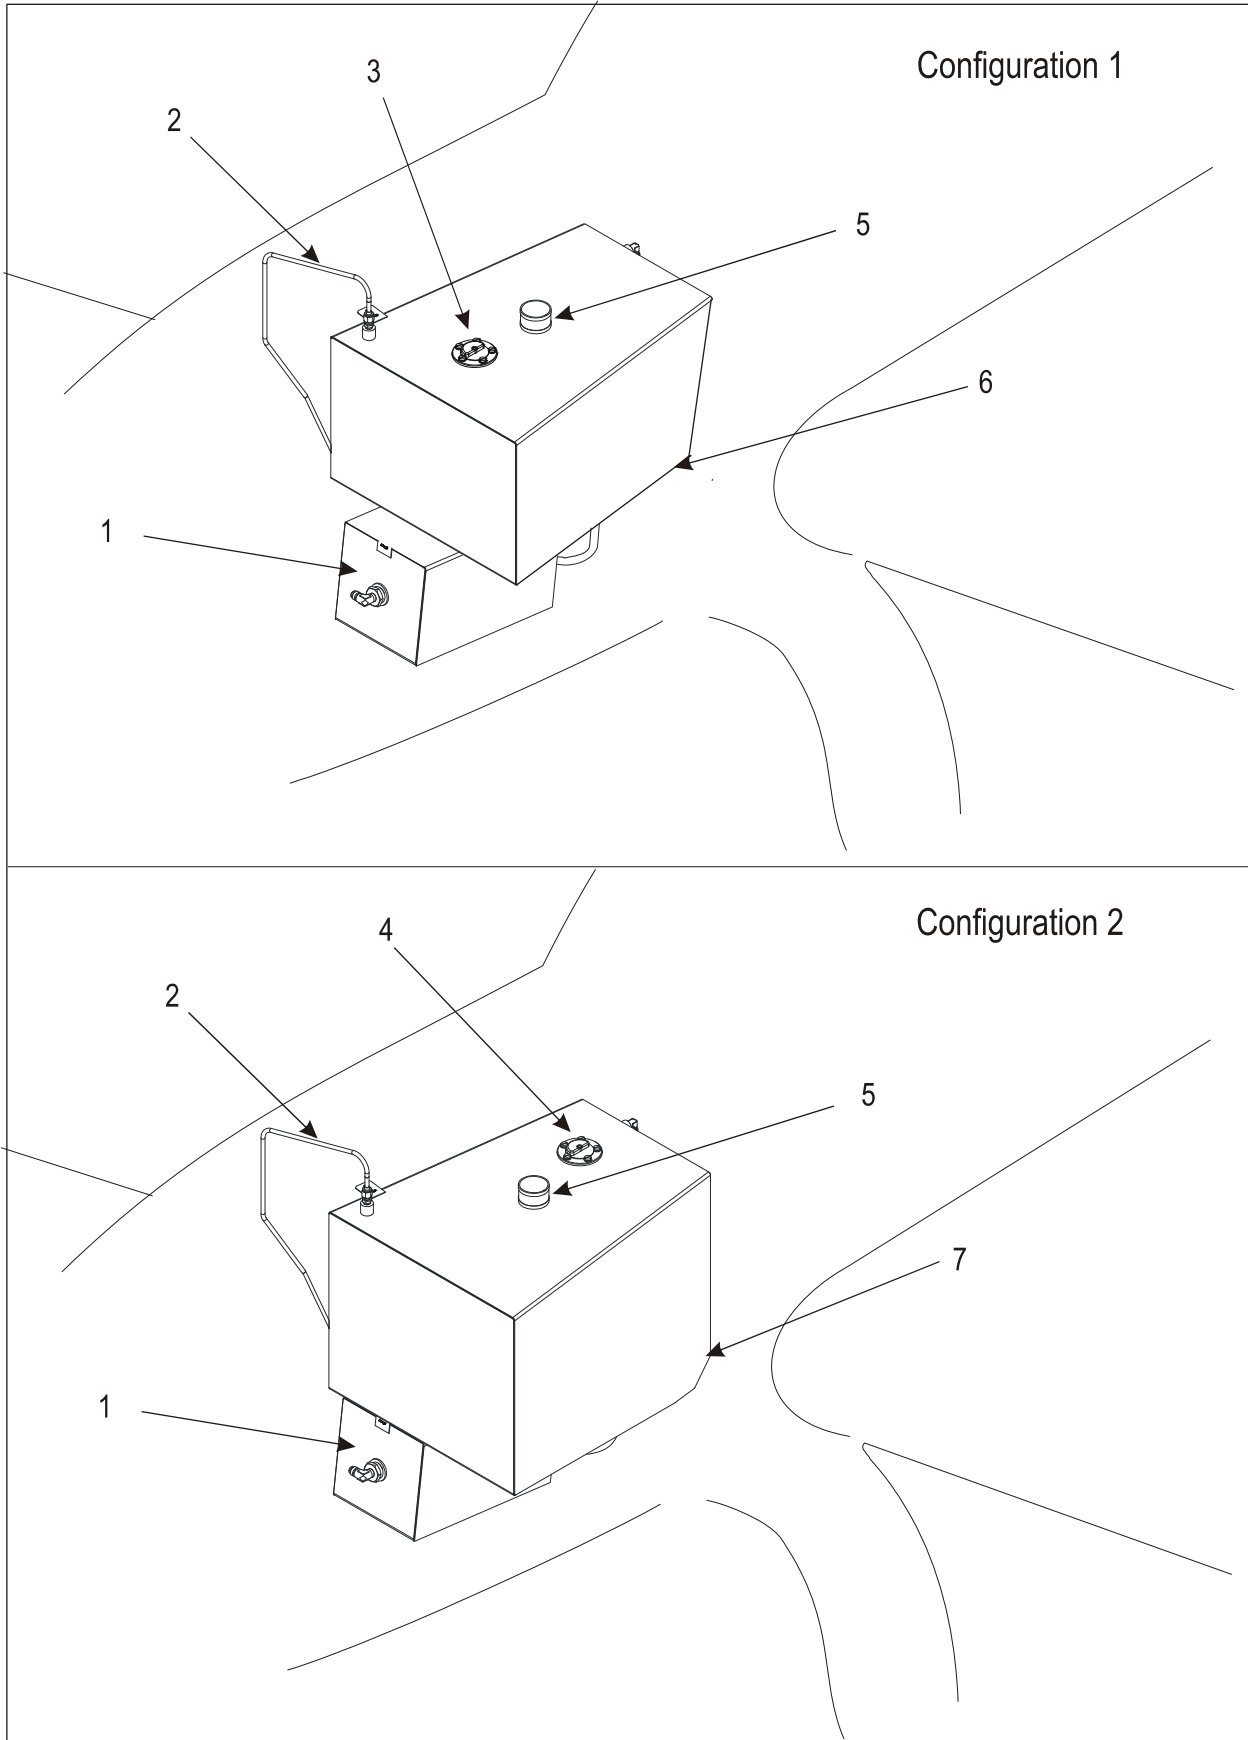

Figure 921-1, Center Tank Versions
Figure 921-1 shows both fuselage fuel tank configurations which are available for the EXTRA 300L ex factory. Item 6 shows the contour of the center tank with 42 L (11.1 US gal) capacity (configuration 1). Item 7 shows the contour of the center tank with 60 L (15.9 US gal) capacity (configuration 2). In each configuration the center tanks are located above the acro tank (1) having 9 L (2.4 US gal) fuel quantity. They are installed in the same place and in the same manner. This includes the vent line (2) and the fuel filler (5) location. However the steel tubes of the fuselage carrying the 60L tank and its mounting have been reinforced. The configuration 1 fuel quantity probe (3) is located in front of the fuel filler (5), the configuration 2 probe (4) is located behind. The fuel quantity indicators are identical in both configurations.